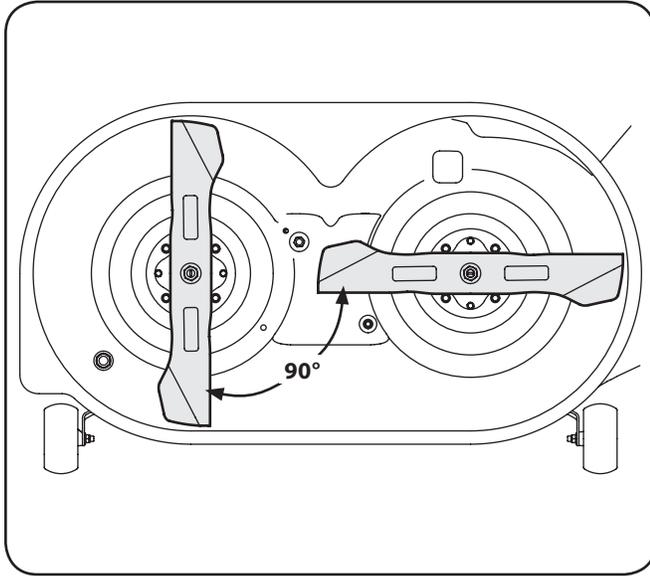

Figure 7-6
15. If the timing belt was installed correctly and the timing arrows were positioned as shown in Fig. 7-5, the cutting blades should be in the position shown in Fig. 7-6.